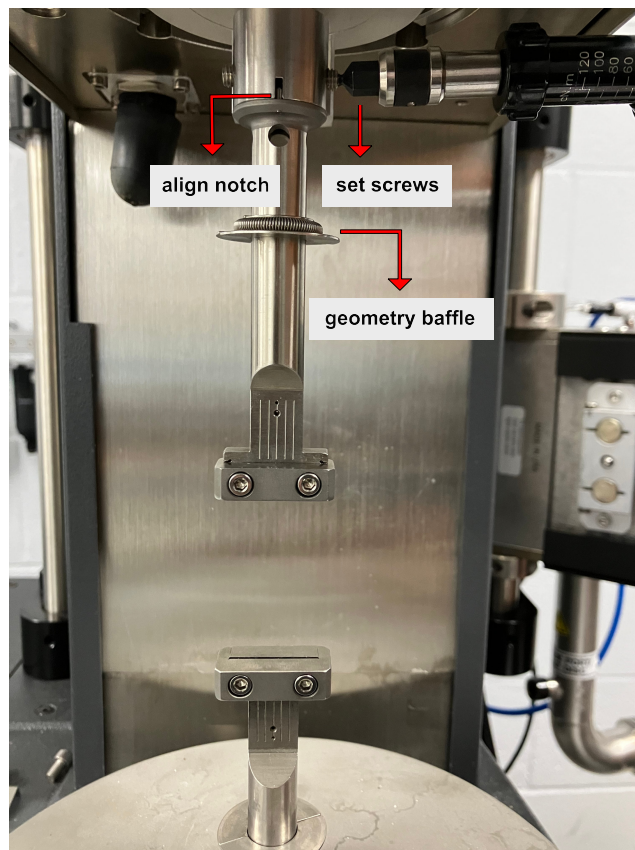

Figure 2: Adding the geometry
- (2.2) Place the lower geometry on the motor shaft and tighten the set screws (fig.2).